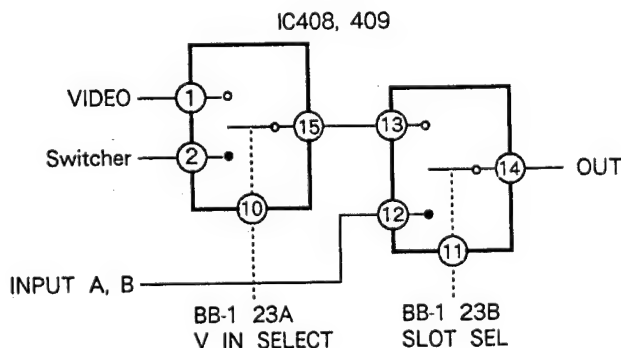

Fig. 6
The signals connected to the switcher (R, L, MIX signals) are input into pin ② of IC408, 409 via pin ① of connector BB-2. In addition, the R and L signals input into INPUT A and B are fed into 13A and 14A of connector BB-1 and enters pin ⑫ of IC408, 409. IC408 and 409 are controlled by the mode shown in Fig. 6 and output through pin ⑭. The R, L signal is then input into pins ⑥, ④ of IC412, increased or reduced according to the changes in the VOL control terminal voltage of pins ② and ⑧, and output from pins ⑦, ③ as well as from 3C, 3B of connector BB-1.